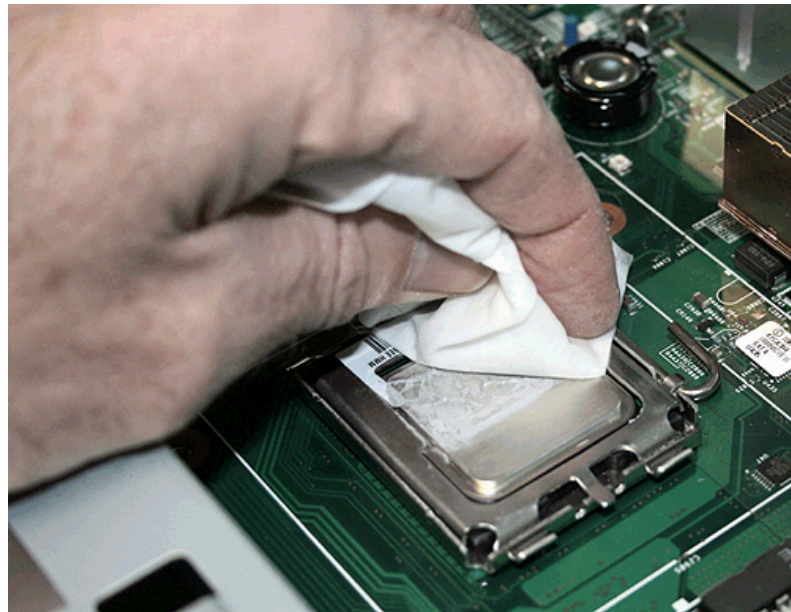

Figure 239. Removing thermal grease from the SAN Volume Controller 2145-8G4 microprocessor
13. Clean the thermal grease from the top of each microprocessor, as shown in Figure 239, using one of the alcohol wipes that was supplied with the FRU assembly. Cleaning the microprocessor before it is removed reduces the amount of handling it is subjected to.